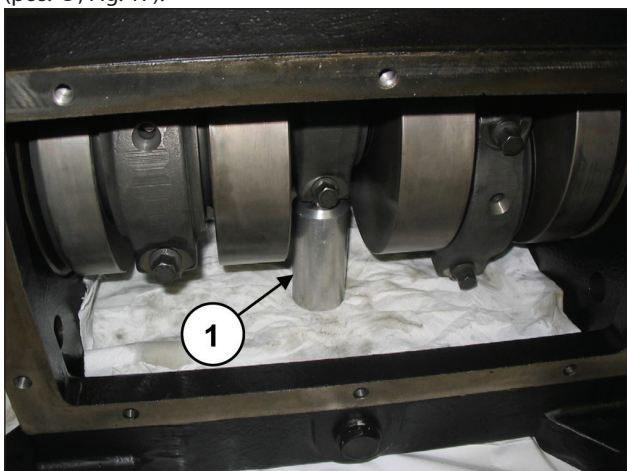

Fig. 17
Insert a shim under the con-rod to block shaft rotation (pos. ①, Fig. 17).